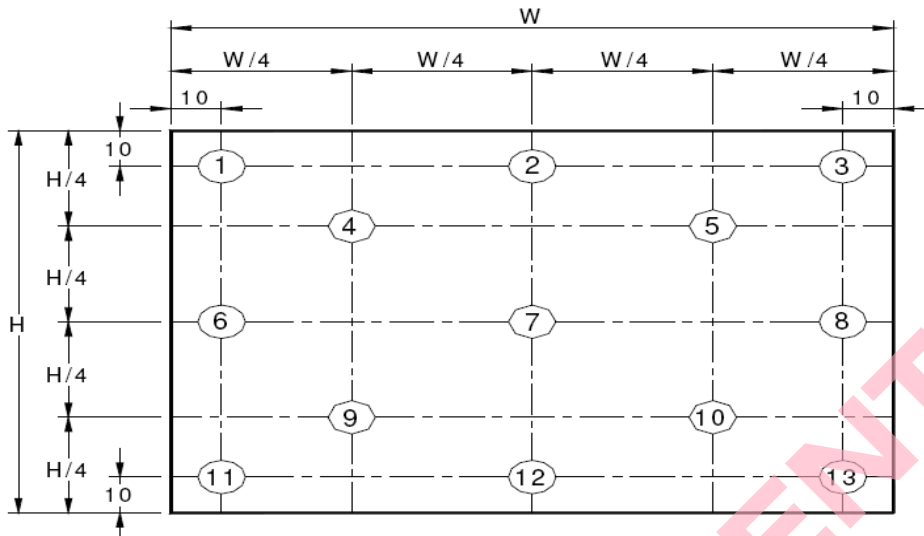

Figure 9. Uniformity Measurement Locations (13 points)
4. The White luminance uniformity on LCD surface is then expressed as : $\Delta Y = \text{Minimum Luminance of 5(or 13) points} / \text{Maximum Luminance of 5(or 13) points}$.(see Figure 8 and Figure 9).
The White luminance uniformity on LCD surface is then expressed as : ΔY_5 = Minimum Luminance of five points / Maximum Luminance of five points (see Figure 8) , ΔY_{13} = Minimum Luminance of 13 points /Maximum Luminance of 13 points (see Figure 9).